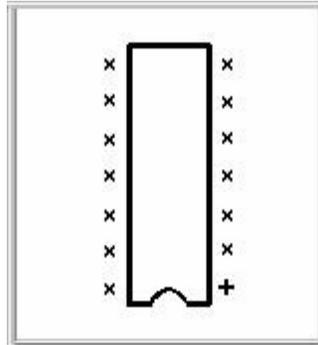

Fig. 3.6 Package Structure
**Package name** e.g. DIP14/300 is shown in Fig.3.6.